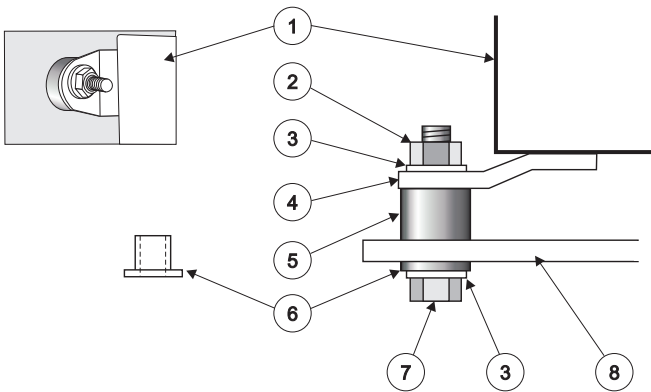

Figure 289: Enclosure Fixings
3. Fit the Gateway and secure it as shown in Figure 289.